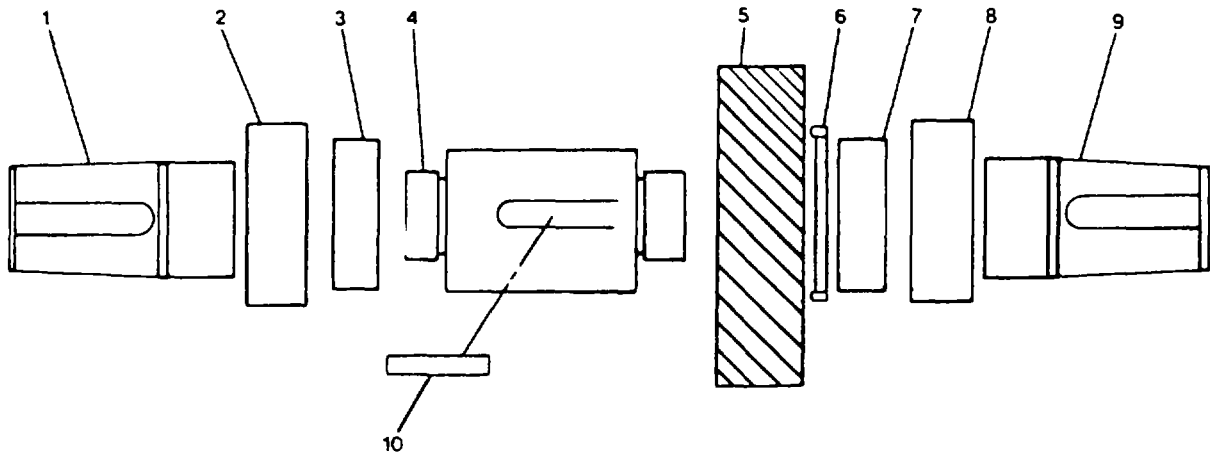

FIGURE 4-33. Low Speed Gear Assembly.
- a. Low Speed Gear Assembly. (FIGURE 4-33)
- (1) Install machine keys (6, 7).
- (2) Install low speed pinion (4) and intermediate speed bearing (5) on low speed pinion shaft (3).
- (3) Install I.S. gear (2) and I.S. bearing (1) shaft.
d. Low Speed Gear Assembly. (FIGURE 4-33)